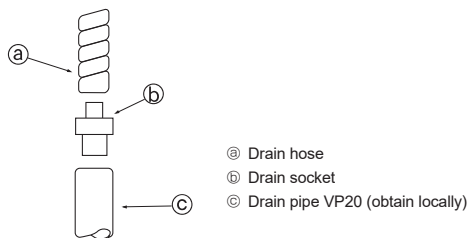

Fig. 5-1
5.1. Drainage Piping Work (Fig. 5-1)
- When connecting to the VP20, use the accessory drain socket ②. Securely fasten the socket to the pipe with vinyl chloride type adhesive so that it doesn't leak.